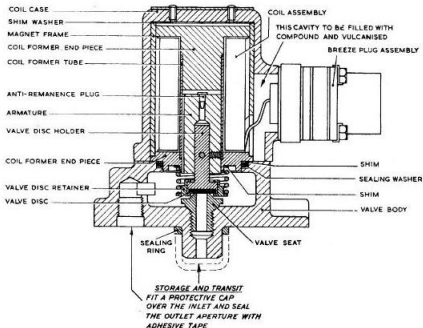

Fig. 3. Valve, Type FGH/A/150
2. The rectangular valve body (fig. 3) is a light alloy casting which forms the valve chamber. A central boss beneath the body is drilled to provide the inlet and this drilling is counter-bored, from inside the valve chamber, and threaded to receive the valve seat. A duct machined in the wall of the valve chamber communicates with the outlet drilling which is internally threaded to receive a pipe connection. Tapped holes, one in each corner of the top face, receive the coil case retaining screws, and the rectangular mounting flange is drilled at each corner.